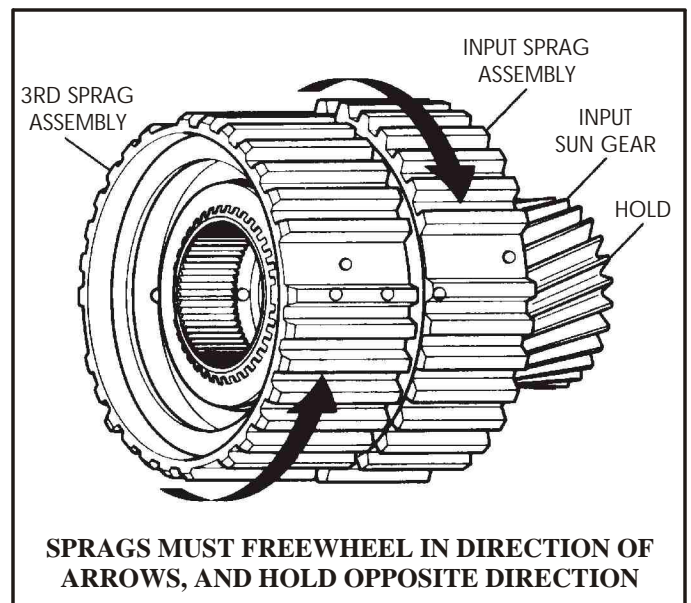

Figure 101
15. Check for proper operation of the input/3rd clutch sprag assemblies, as shown below in Figure 101.